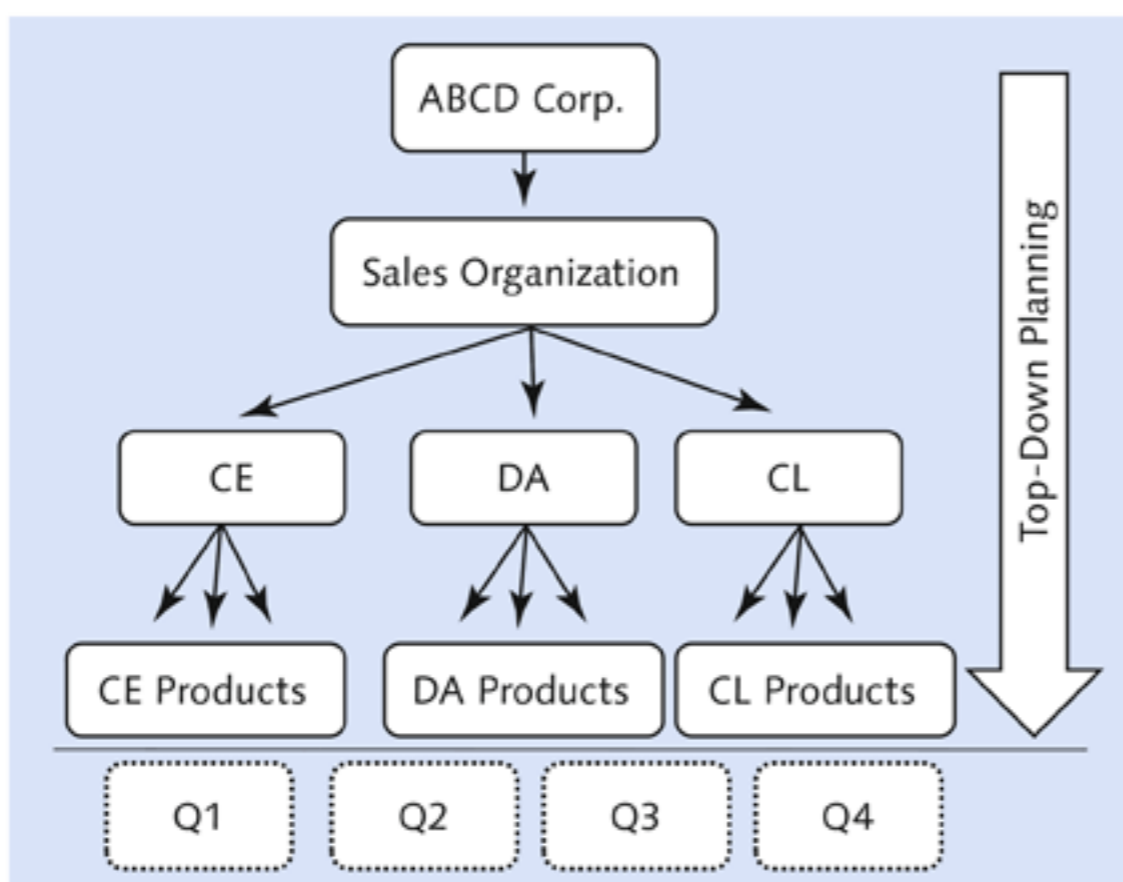

Figure 12.3 ABCD Corp. Planning Scenario
To illustrate the different planning features of SAP NetWeaver BW, we've used a simple sales planning scenario within ABCD Corp. In this company, sales planning is on an annual cycle for all of the three sales organizations: 1000 (APAC), 2000 (Europe), and 3000 (North America). Each sales organization plans for the sales figures of three different divisions or product ranges: consumer electronics (CE), daily appliances (DA), and consumer lifestyle appliances (CL). This is a high-level plan for the organization, and the high-level values for each of the product ranges are transferred to different products belonging to them; each sales organization has a product range manager who is responsible for planning the sales of each product under his assigned product range. The plan for a year (January to December) is done by quarter; so there are four planning periods: quarter 1 (Q1), quarter 2 (Q2), quarter 3 (Q3), and quarter 4 (Q4). Figure 12.3 is a graphical representation of this scenario.